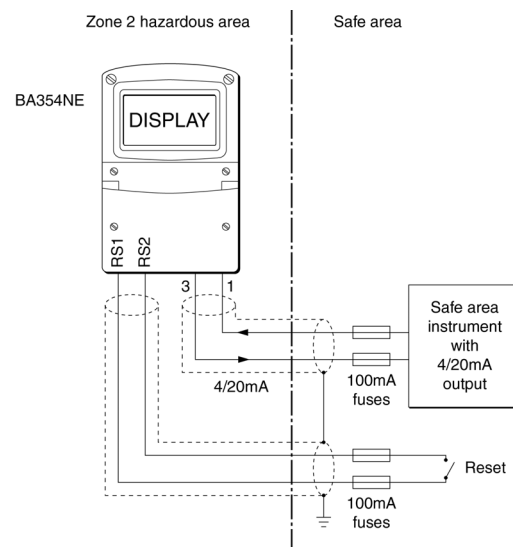

Fig 3 Remote indication in Zone 2 hazardous area
3. The 4/20mA output from the safe area instrument must be able to supply the 1.2V required to operate the Rate Totaliser. This increases to 5.0V if the Rate Totaliser includes an optional backlight which is loop powered. See 10.4.1 Fig 3 shows a typical application.
If the totaliser is to be reset by a manually activated contact closure in the safe area, 100mA fuses mounted in isolating terminals should be connected into each of the reset wires as shown in Fig 3. Again the wiring must be able to withstand a 500V rms insulation test for one minute, but any mechanically actived push button switch may be used.